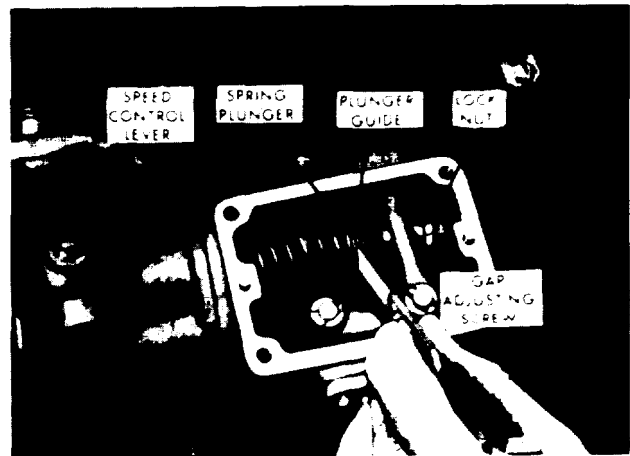

Figure 11H-3. Adjusting Governor Gap
3. Place the speed control lever (Figure 11H-3) in the maximum speed position.